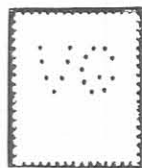
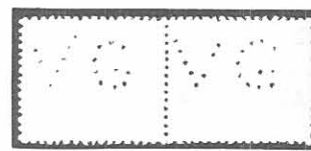
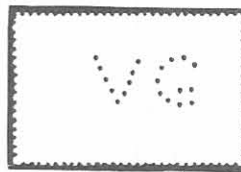

Figure 4
Figure 5
Figure 6
3. In recent years the Victoria Government has been using the VG Perfin illustrated in Figure 4. Prior to this, they used a machine that perforated 12 stamps at a time, each of which was slightly different. And, again prior to that machine, there was an earlier 12-head machine, again each one different. Recently I have noted on recent Australian stamps a VG as in Figure 6, which differs considerably from Figure 4. I found this was as one of the previous machines. Figure 5 shows a pair from that machine with the stamp on the right (with missing hole) as the recent ones. The recent usage has no missing hole, and Figures 6 and 7 suggest that the machine is now only punching one stamp at a time. Was there a major repair or what? The Figure 4 Perfins still appear to be in use, so was there a repair to the old machine for